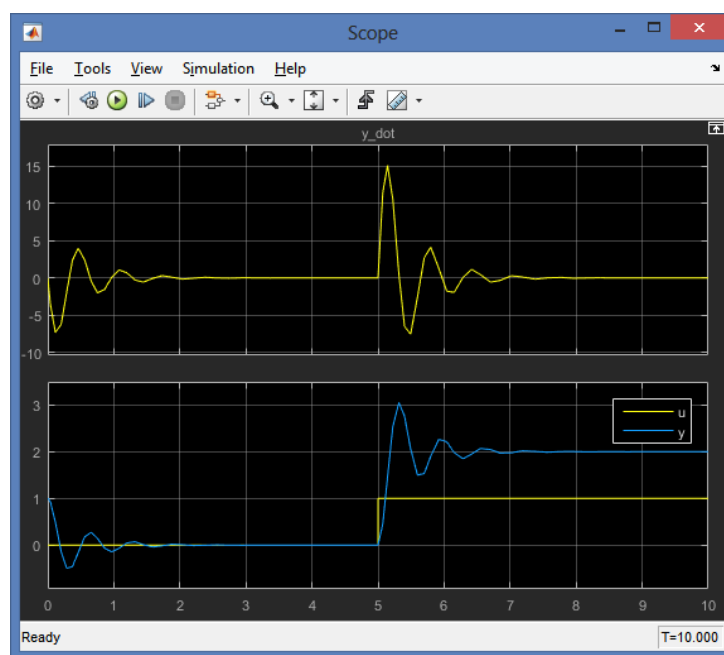

Figure 1-4: Simulation result
- (9) Now the system is built up. Click the  button or hit `Ctrl+T` to run the simulation. The scope should then display the simulation results as can be seen in Figure 1-4.
- (10) When looking at the plots, one can see that they are not very smooth. The solver, which is automatically chosen by Simulink in the default setting, obviously **takes rather large time-steps when applying the numerical integration scheme.**